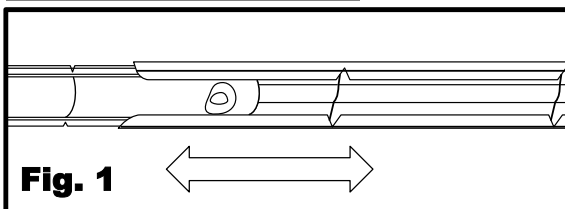

Fig. 1
1. Adjust the hanger bar length by separating the bars. [Fig. 1]